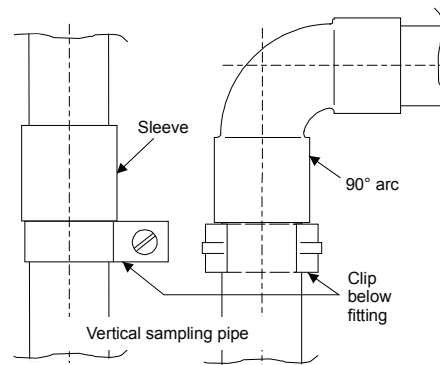

Fig. 22 Vertical sampling pipe
- If the sampling pipe or parts thereof is laid out vertically (e.g. in a riser), make sure the tubes cannot slide down (secure clips directly below the fittings as shown in **Fig. 22**).